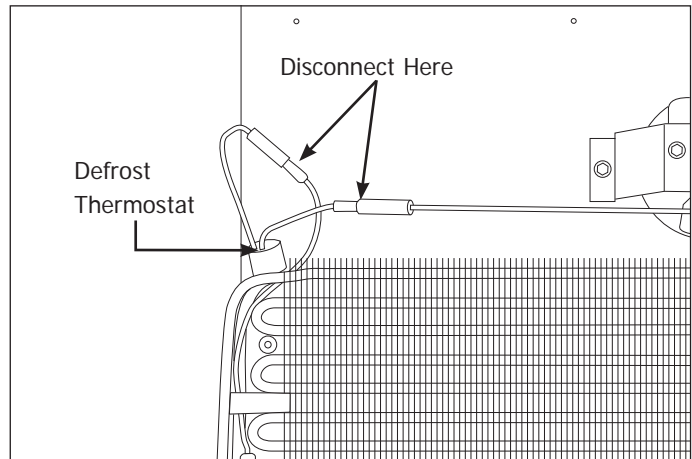

Figure 5-19. Defrost Thermostat Removal
The defrost thermostat is secured with a retaining clip to the upper left corner of the evaporator assembly. The defrost thermostat and wire harness connections may be accessed without completely removing the evaporator cover. The top of the evaporator cover may be pulled away from the rear of the cabinet interior enough to remove the defrost terminator and disconnect the wire harness connections. (See Figure 5-19)
5. Disconnect the defrost thermostat wire leads from the wire harness. (See Figure 5-19)